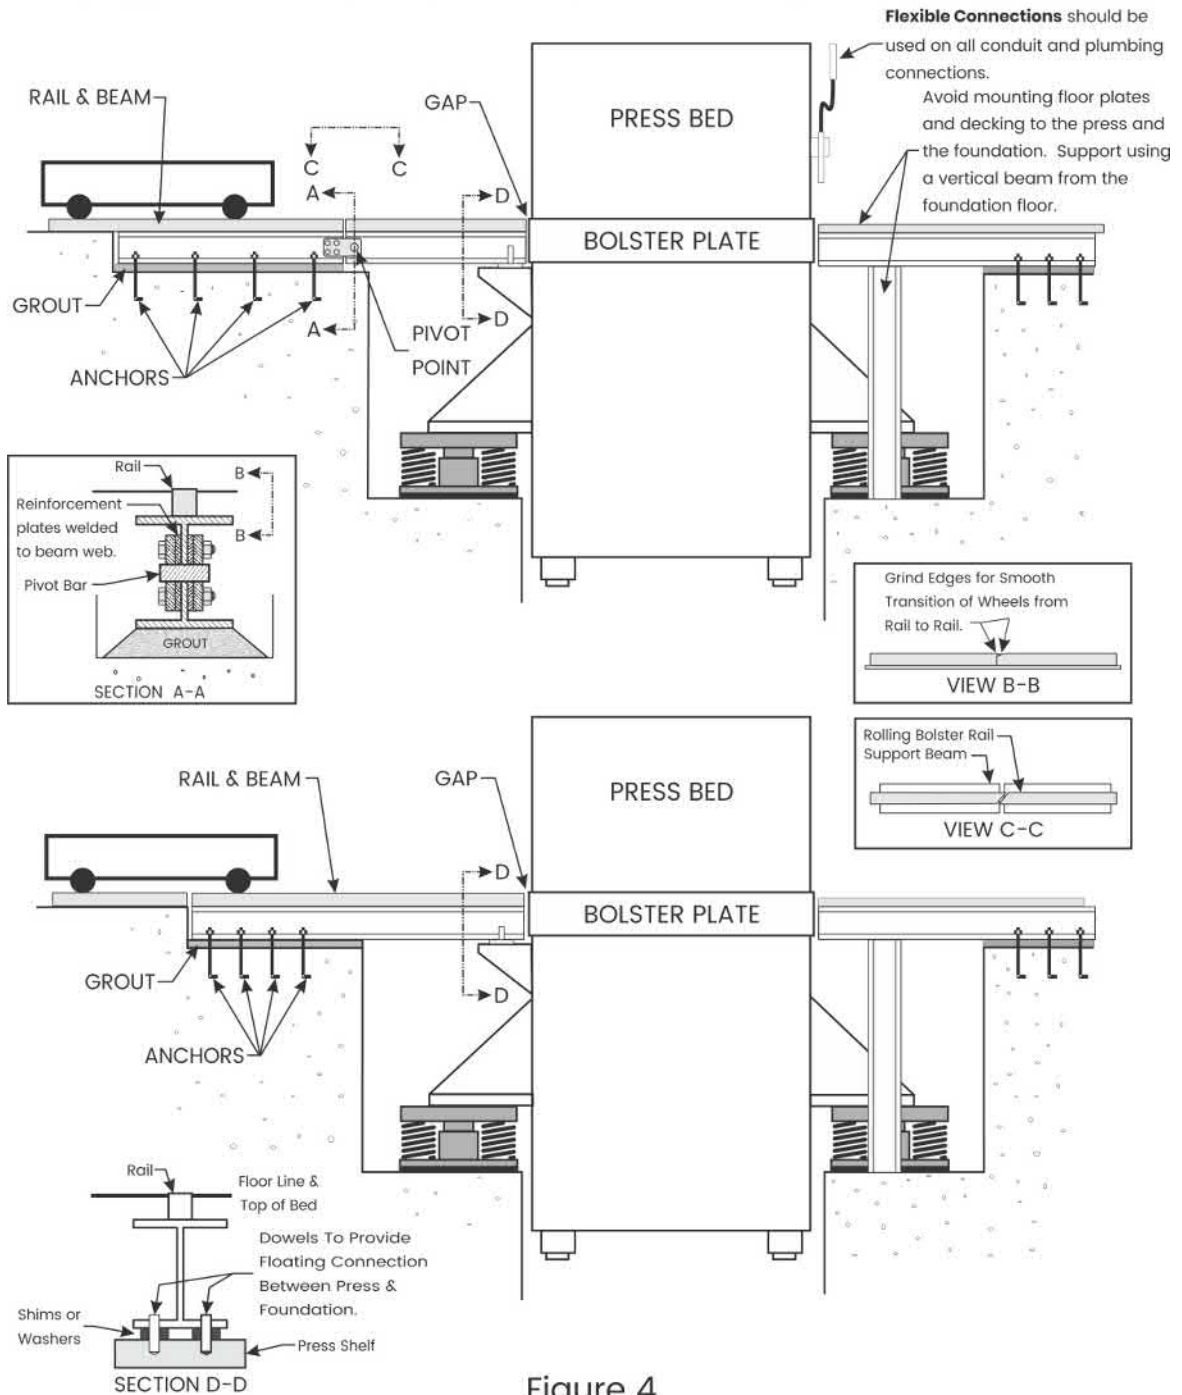

Figure 4
7. If rolling bolster plates or die carts are going to be used, they should be installed in accordance with Figure 4. Since spring isolators are soft, they will deflect during loading and unloading of the die. The first method shown is preferred since rolling bolster beam floats with a changing press elevation, negating any alignment problems.